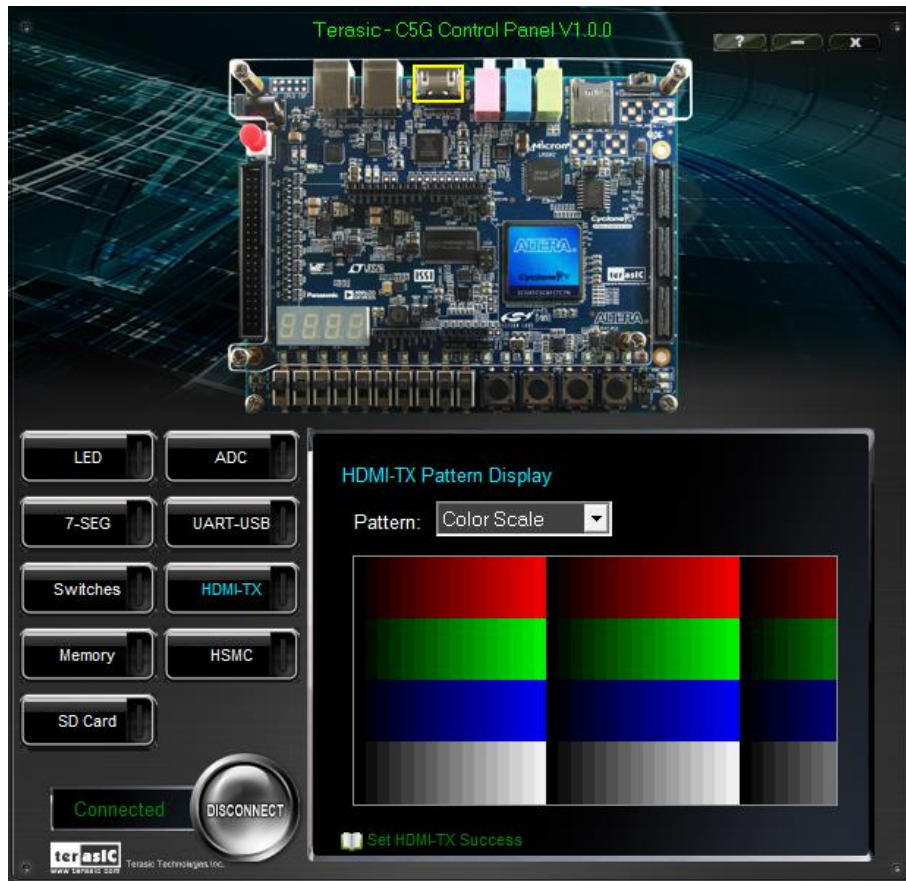

Figure 2-11 Controlling VGA display
1. Choosing the Video tab leads to the window in **Figure 2-11**.
4. Click the drop down menu shown in **Figure 2-11** where you can output the selected pattern individually.